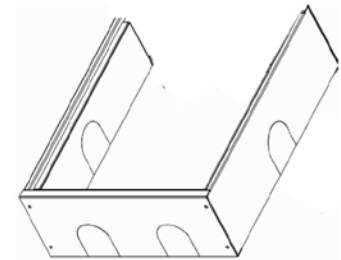

Figure 3
**Step 3:** With the one End Panel hand tightened, repeat step 2 with the other End Panel on the opposite end of the same Side Panel. Make sure the Neoprene gasketed edge (#6) is facing the same direction as the previously attached Side and End Panel. Using two of the supplied #10-32 nuts with tooth lock washer hand tighten the nuts until snug (See Figure 3).